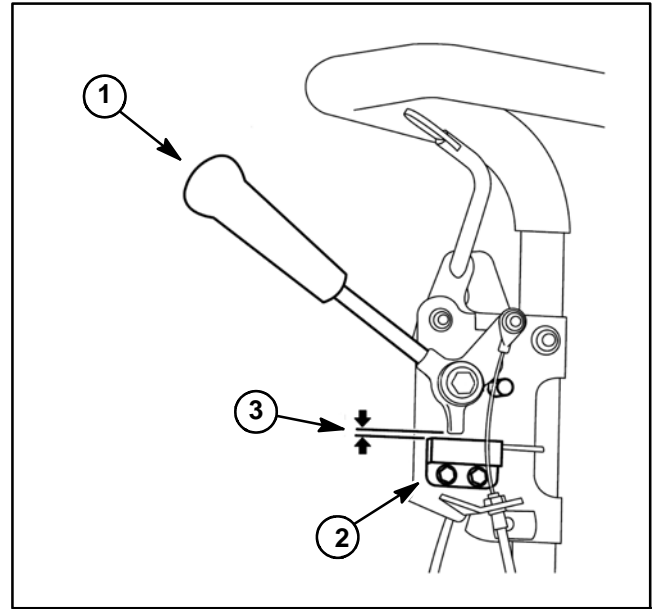

Figure 11
3. With the traction lever in the disengaged position and resting against the neutral stop, there should be from 0.032 to 0.062 inch (0.8 to 1.5 mm) clearance between the traction lever and the clutch interlock switch (Fig. 11).
2. Remove screws and lock nuts that mount switch to switch mount bracket on handle (Fig. 11). Remove switch from machine.
1. Position clutch interlock switch to switch bracket and secure with screws and lock nuts (Fig. 11).